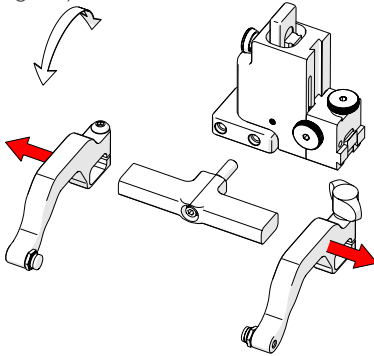

Fig. 56 - Remove probe holder arms
3. Loosen the arm clamp screw and the probe holder arm adjustment knob allowing the removal of the probe holder arms (Fig. 56).